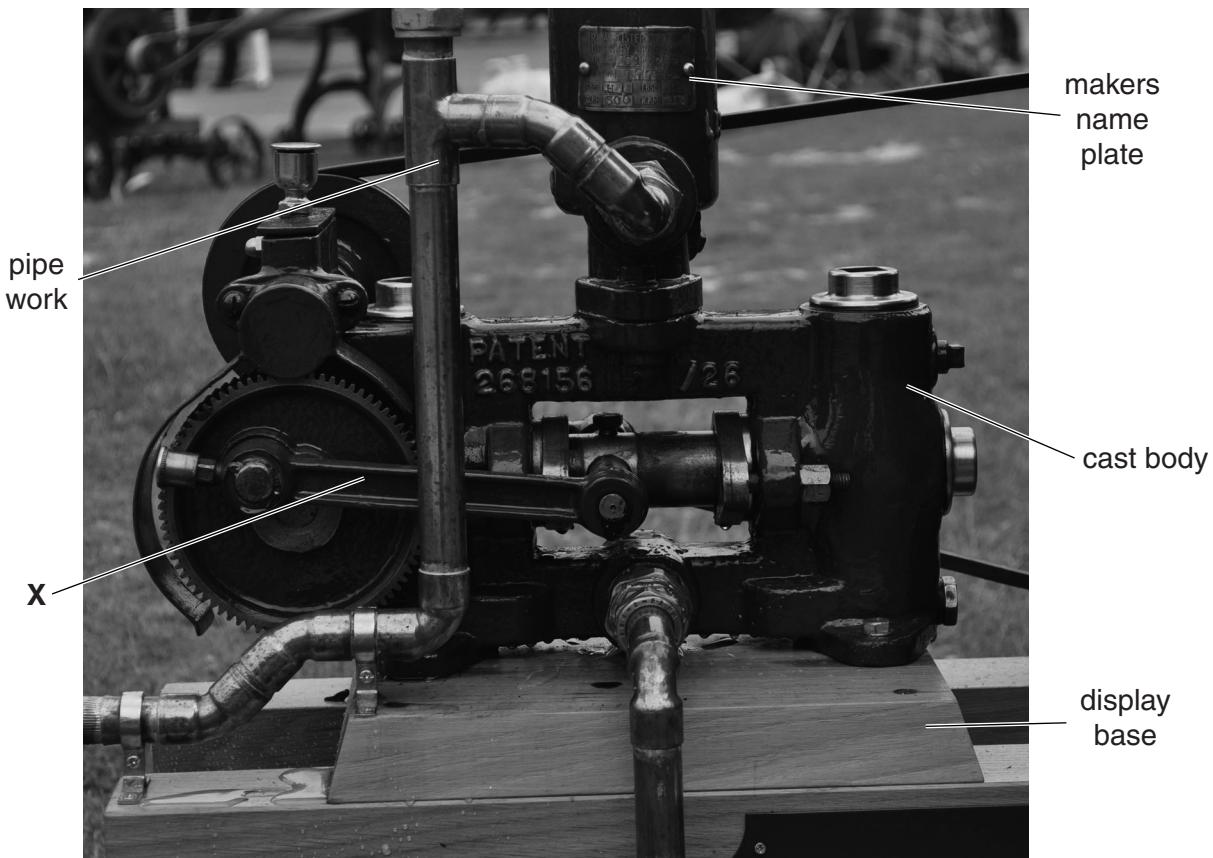

Fig. 3
- (c) Fig. 3 shows a water pump.